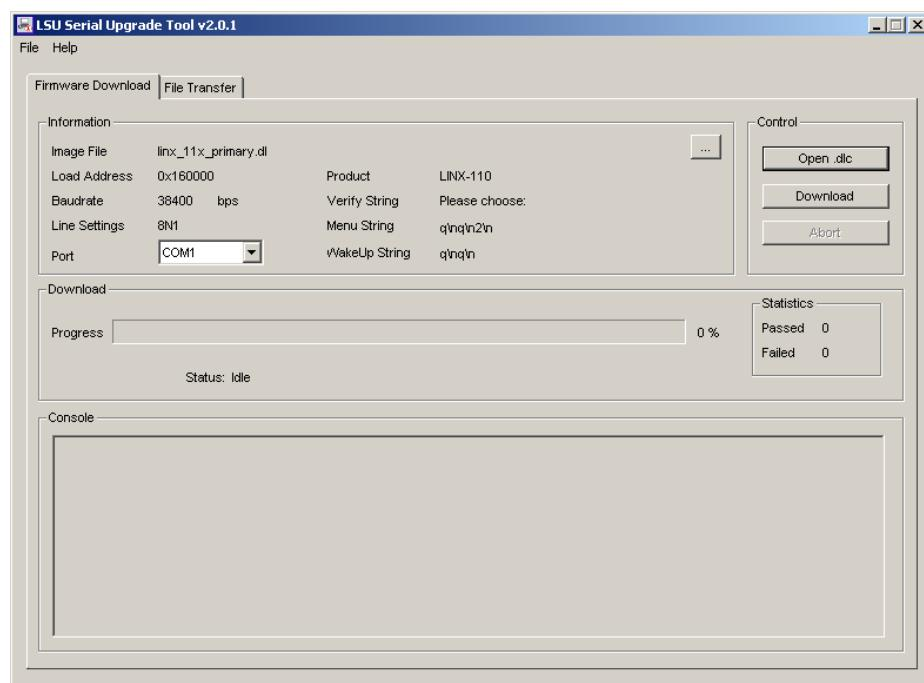

Figure 151: LSU Serial Upgrade Tool in Idle Mode
1. Double click on the \*.dlc file that comes with the new firmware package. This should start the LSU Tool and load the firmware image referenced in the dlc file. Please note that the dlc file and the dl file must be stored in the same folder. The start window of the LSU tool is shown in Figure 151.